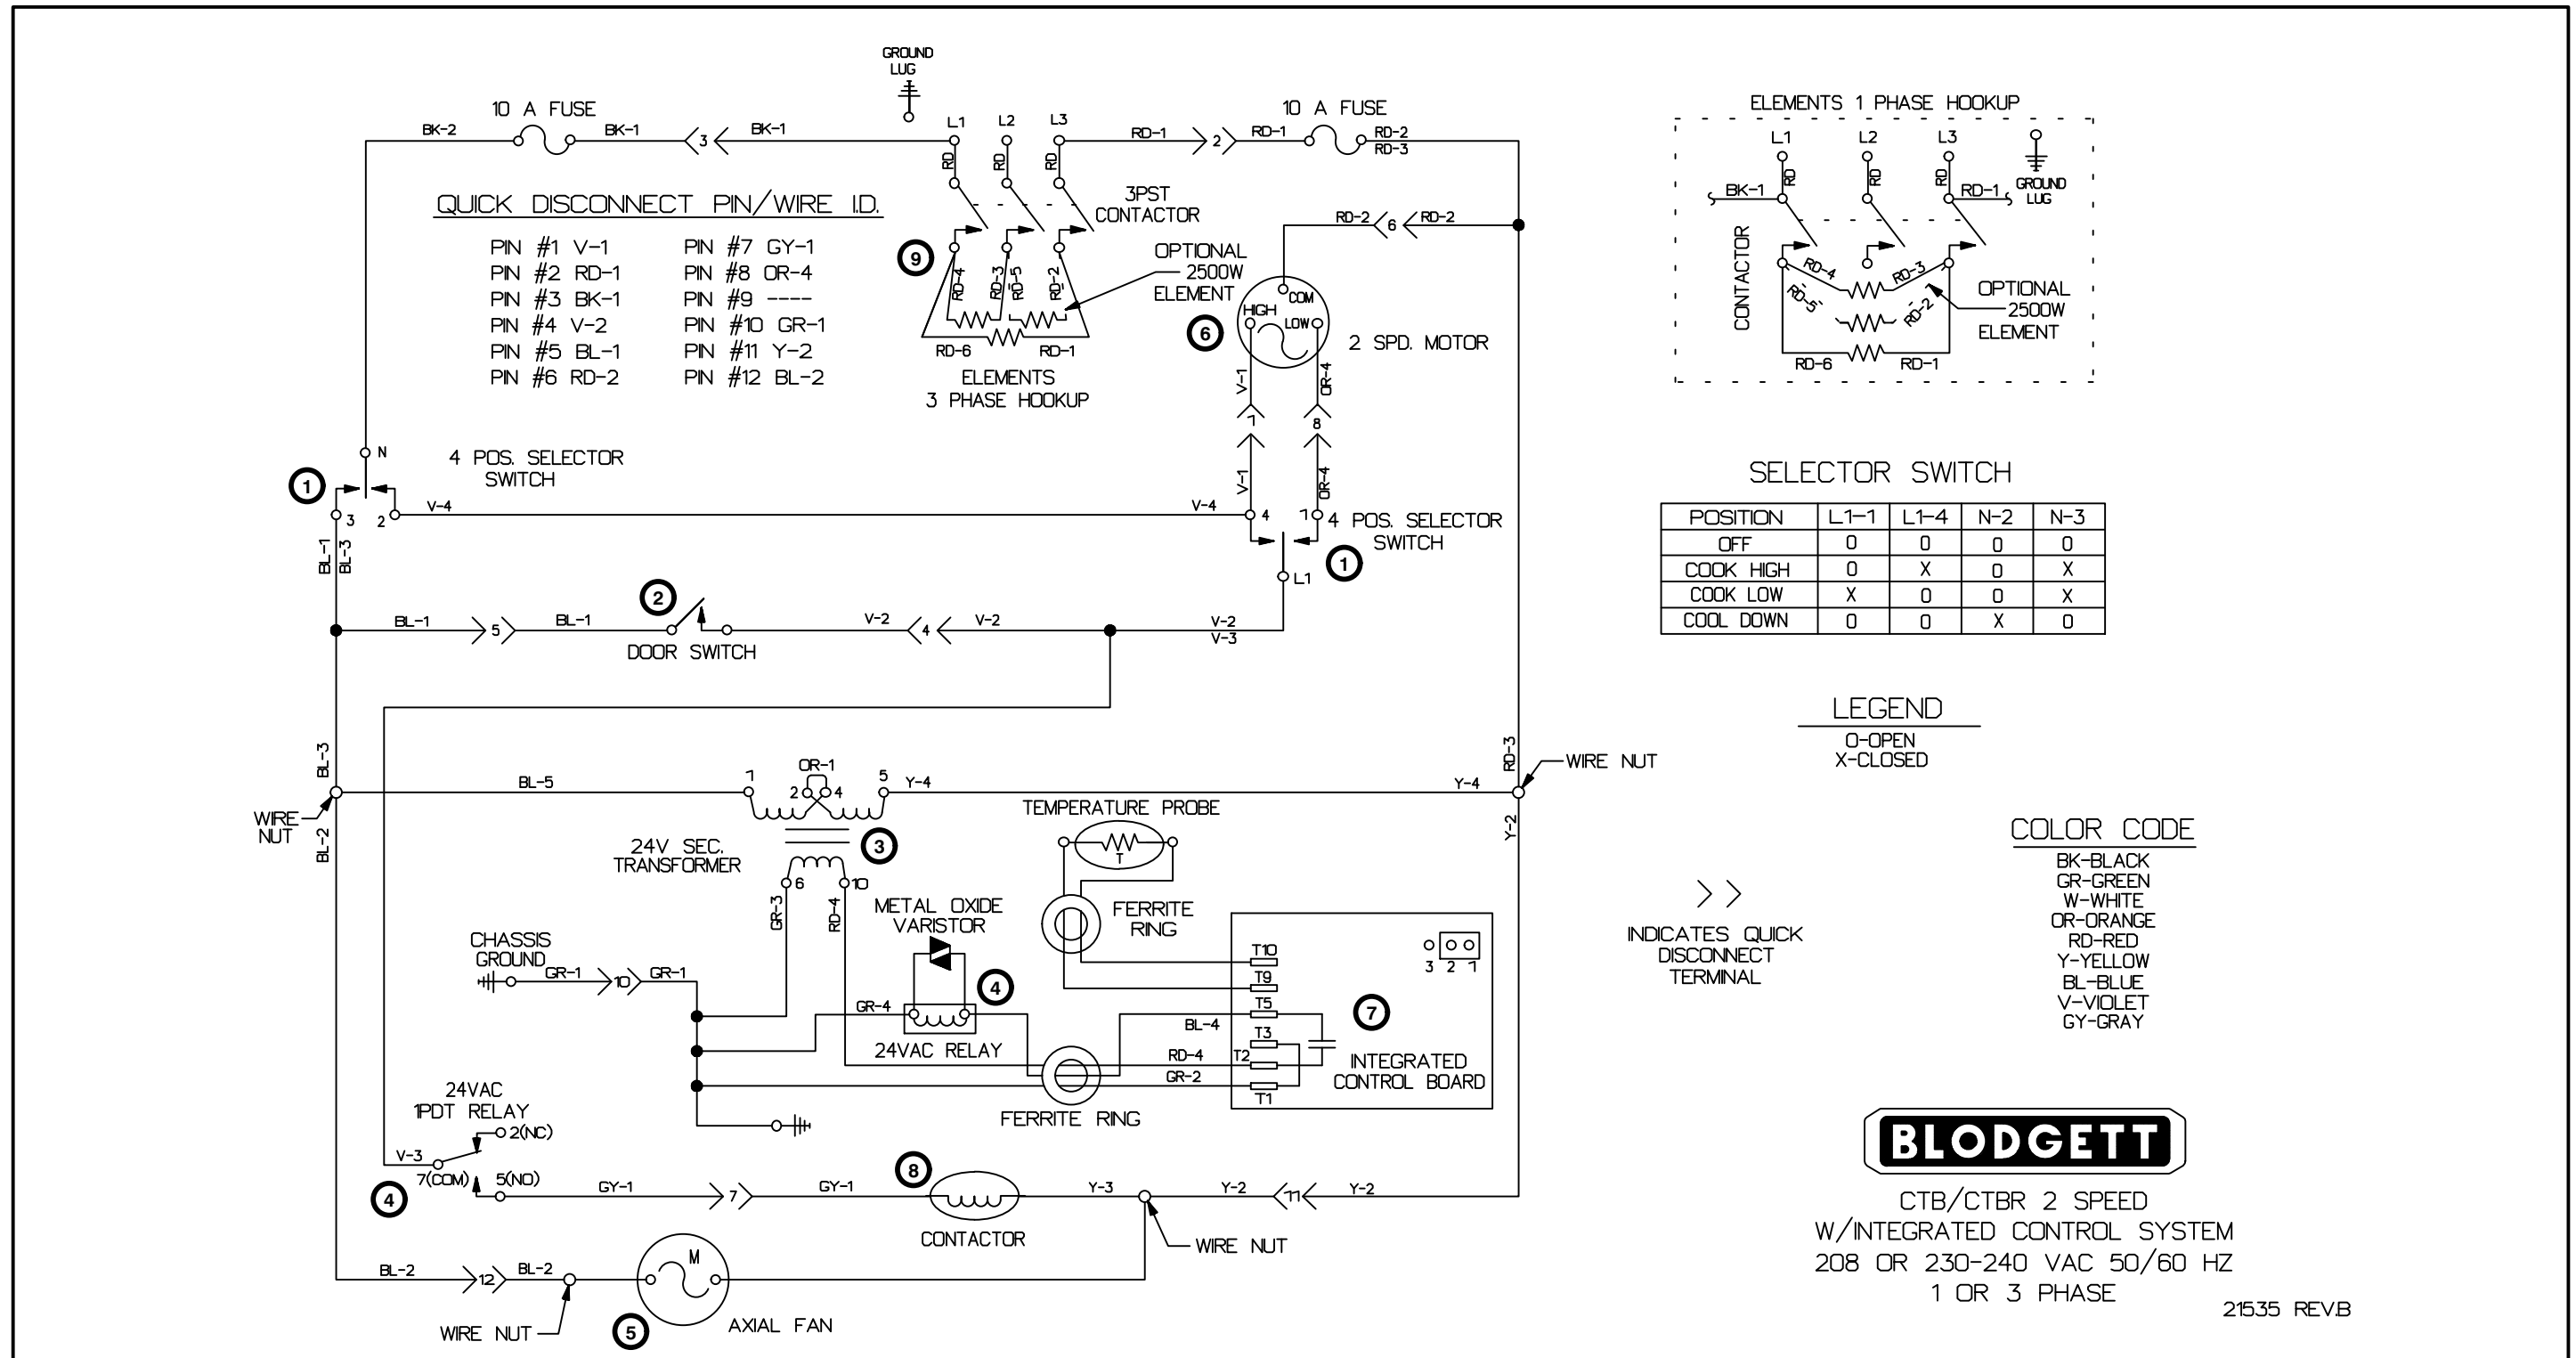

FIGURE 13
*NOTE: Refer to FIGURE 13 page 3–13 for component locations.*